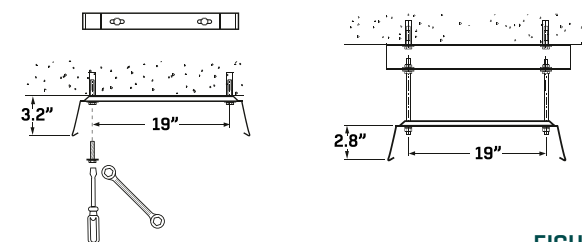

FIGURE 2
- 1) Chilled beams shall be independently suspended from the structure above by four (4) threaded rods of 3/8" diameter or optional cable suspension. (See **FIGURE 2**) The upper end of the rods shall be suspended from unistrut channels that are: